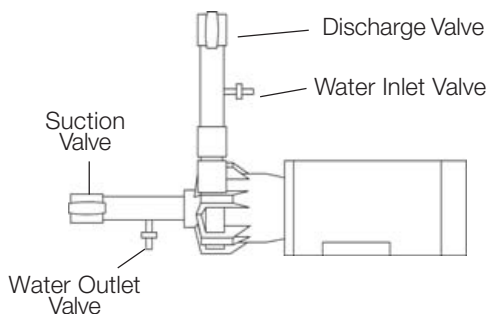

Figure 1
10. When pumping liquids that may solidify or crystallize, a flush system should be added to the piping. See Figure 1. Install water inlet and outlet valves as shown.